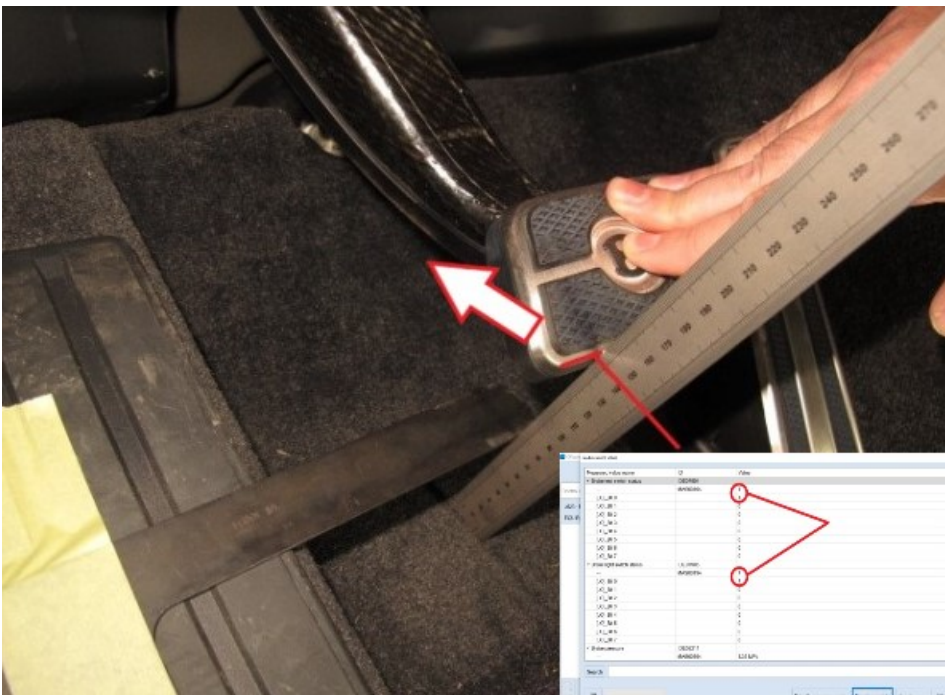
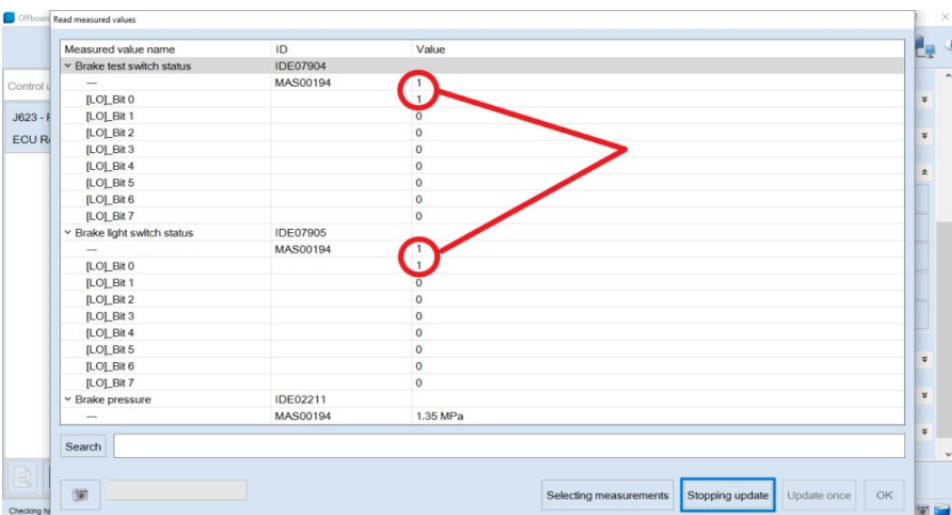

Figure 7
Figure 8
7) Referring to Figure 7 - Gently press the brake pedal further (by hand) until the brake light status of IDE 07904 changes from 0 to 1 (also refer to Figure 8)